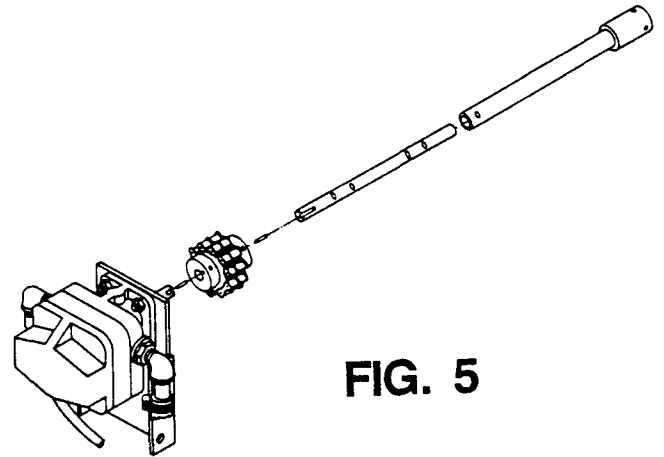

**FIG. 4**
- Attach the rear of the sub-frame to the rear axle latches and lock the latches with the clip pins. Attach the front of the sub-frame to the front hanger brackets on tractor frame and lock the latches with the clip pins as shown in FIG. 4. Align the extension with sub-frame and tighten all bolts in sub-frame.